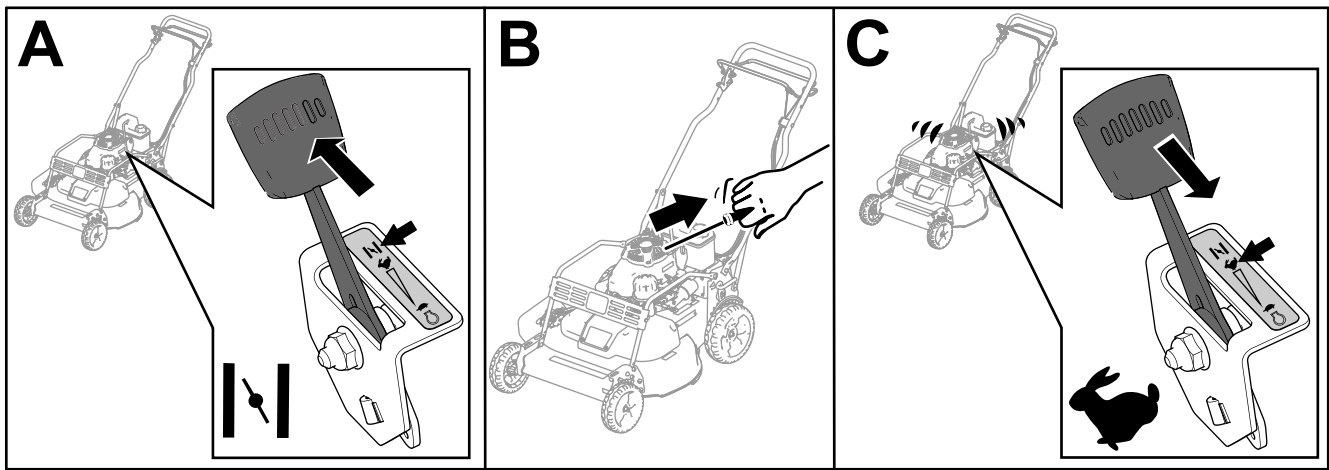

Figure 14
3. Move the throttle control to the CHOKE position (A of Figure 14).
4. Pull the starter handle lightly until you feel resistance, then pull it sharply (B of Figure 14).
5. Move the throttle control lever to the FAST position when the engine starts (C of Figure 14).